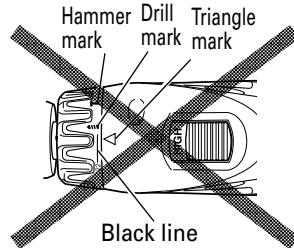

Fig. 7
- Do not use with the clutch dial numeral between "22" and the black line at the middle of the drill mark. Doing so may cause damage (See Fig. 7).